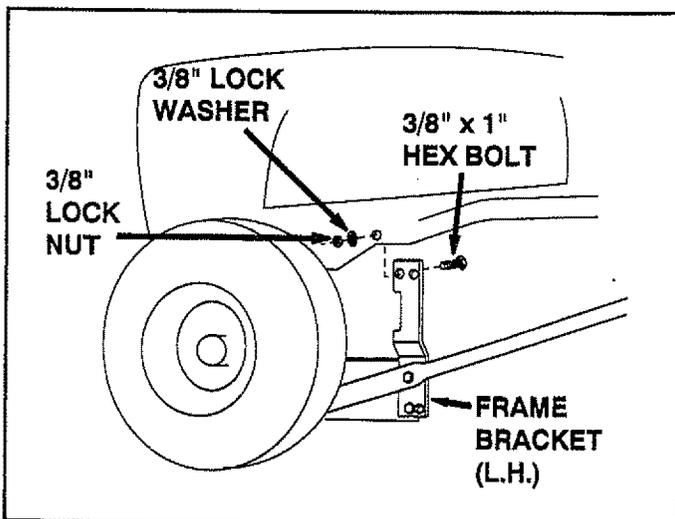

FIGURE 17 (Left Hand Side View)
- Remove the 7/16" x 1" bolt (if present) from the hole located in the L.H. side of the tractor frame, below the engine and just ahead of the foot rest. Attach the front hole in the L.H. frame bracket to this hole as shown in figure 17, using a 3/8" x 1" hex bolt, lockwasher and lock nut. Repeat for other side. **Tighten both sides.** See figure 17.